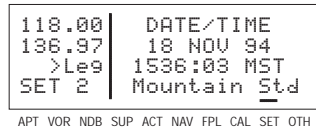

Figure 4-185
1. Select the SET 2 page (figure 4-185).